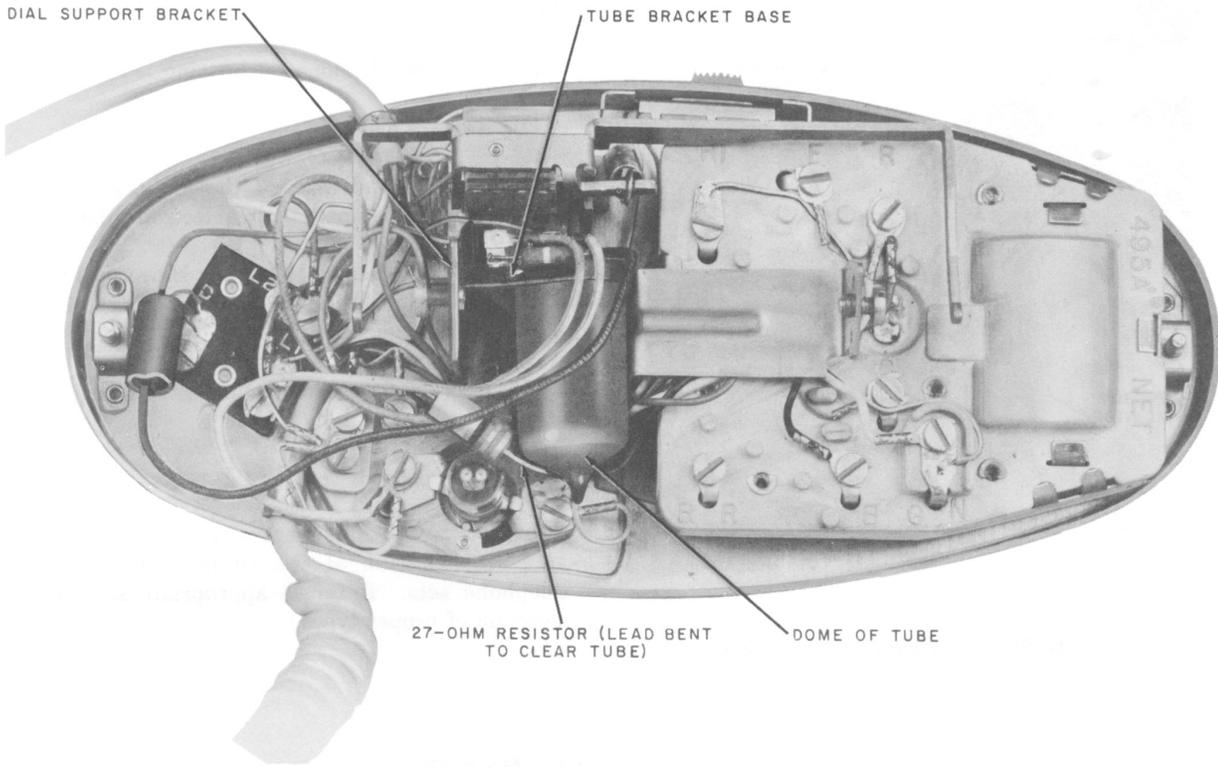

Fig. 10—Location of Cold-Cathode Tube in 701B (MD) Telephone Set
701B (MD) or 702B telephone sets as follows (Fig. 10):
- (1) Remove telephone set housing.
- (2) Remove dial.
- (3) Remove and discard the mounting screw furnished as part of the electron tube.